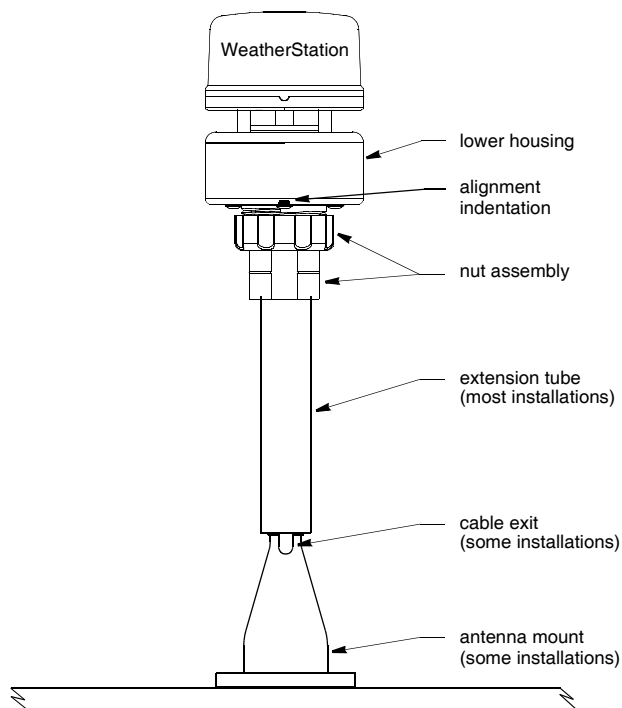

Figure 4. Installation (150WX shown)
2. Position the mounting hardware at a 90° angle to the mounting surface. If necessary, use shims to make the mounting surface level (see Figure 4).
6. Screw an extension tube onto the antenna mount if desired (see Figure 4).
4. To accurately measure the wind direction, be sure to orient the alignment indentation correctly. Grasp the lower housing of the WeatherStation Instrument below the reflector plate and hold it in the proper position (see Figure 4).
5. Slide the captive nut upward and screw it onto the base of the WeatherStation Instrument (see Figures 4 and 5). **Hand tighten** only. Do not over tighten. *Be careful not to rotate the WeatherStation Instrument changing the alignment or loosen the nut assembly from the antenna mount/extension tube.*